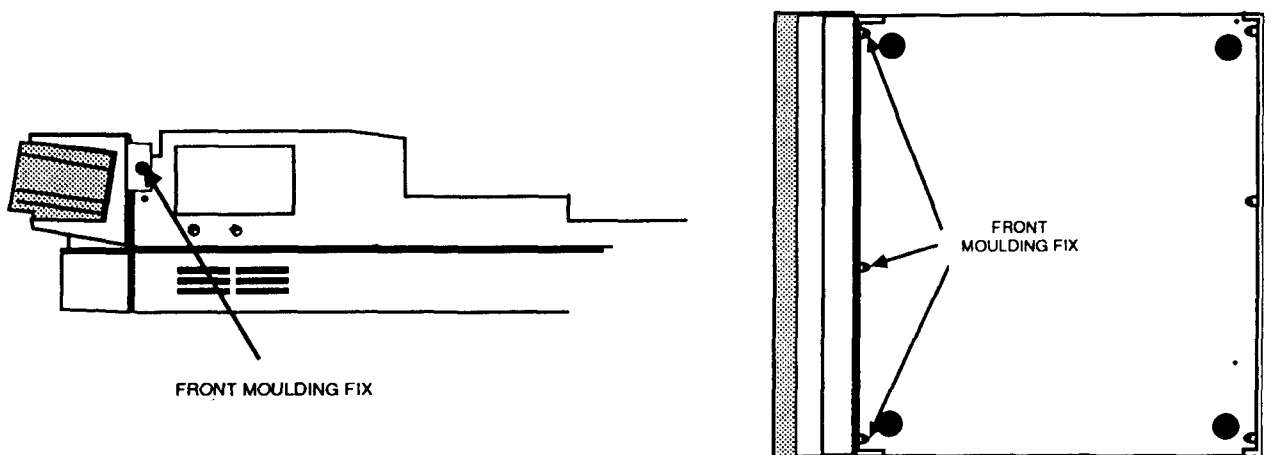

Fig.2: Removing the front moulding assembly
- 1 Remove the two screws securing the front moulding assembly at each side. Stand the unit on one side and remove the three screws securing the front moulding assembly underneath the computer (see Fig. 2).